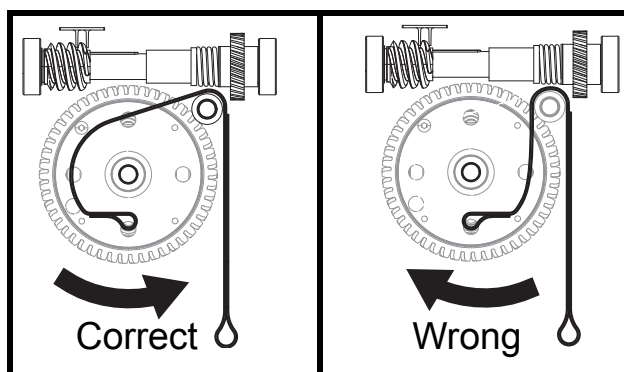

Fig. 16
- 9) Rewind the strap. Make sure it is in the correct winding direction (see Fig. 16).
- 14) Rewind the strap. Make sure it is in the proper winding direction (see Fig. 16).